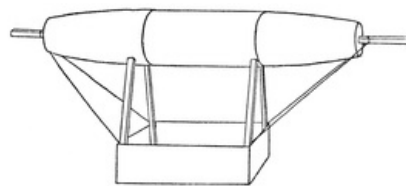

FIG. 114
**An Airship** (Fig. 114). The airship is made from three corks glued together, the thickest cork being in the middle. Matches are inserted at each end. Four matches are inserted into the corks and their other ends glued into a match-box. A piece of black thread is fastened to the matches as shown in the diagram. Matches and corks can be coloured dark grey.